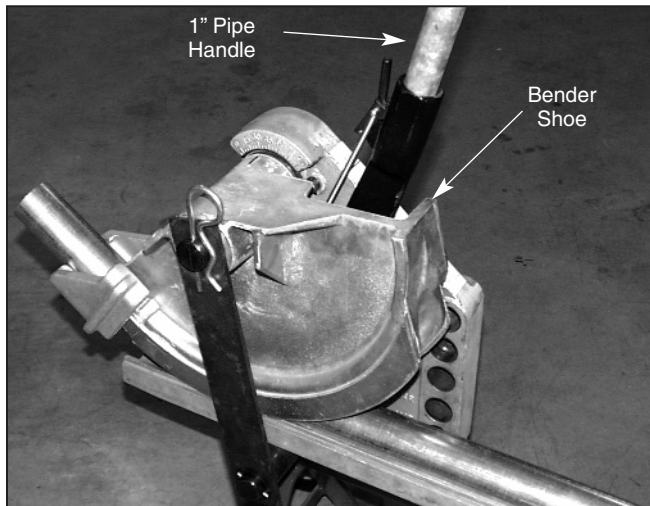

Fig. 14
- If the conduit will not slip out of the bending shoe, place the pipe handle in the bending shoe, figure 14.